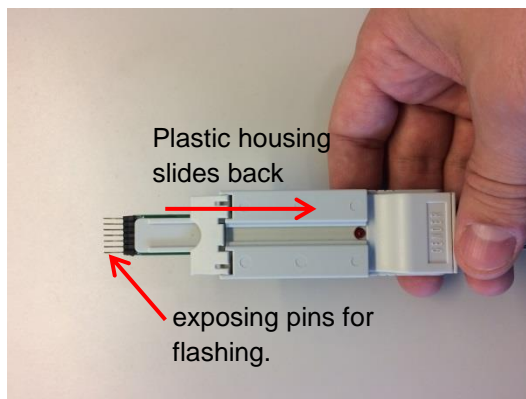

Figure 4
- Slide the Gender housing back to expose the pins which will be connected to the drives flash port. See Figure 4.